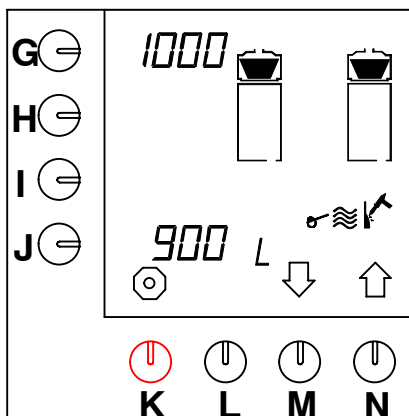

Fig. 18 Descaling counter coffee-making system
- The descaling counter appears on the display (fig. 18).